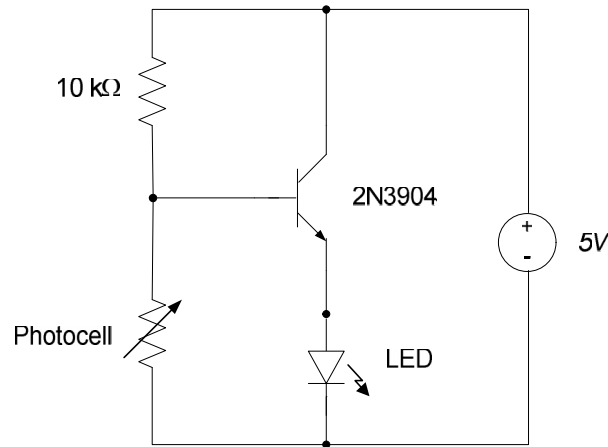
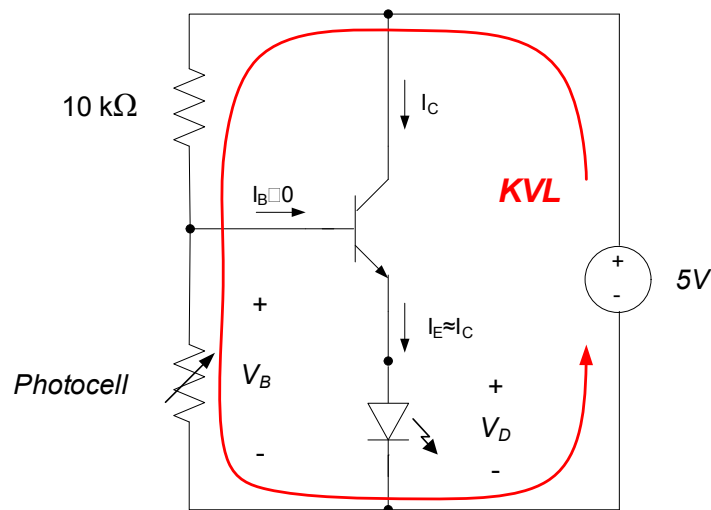

Figure 1. Dusk-to-dawn lighting circuit.
Figure 5. Circuit analysis to determine BJT base voltage.
In this part of the lab assignment, we will create a light-sensitive lighting system. A photocell – a light-sensitive resistor – will be used to sense the ambient light level. A Bipolar Junction Transistor (BJT) will be used as a switch to turn on a light-emitting diode when the ambient light level becomes low. The circuit we will use is shown in Figure 1.
There are several unfamiliar components in the circuit of Figure 1: a photocell, an LED, and a BJT. A detailed understanding of the operation of these components is beyond the scope of this lab, but a brief overview of their operating characteristics is provided below. Later courses in a typical electrical engineering curriculum will provide background information necessary to fully understand these components.
Apply KVL around the outer loop of the circuit of Figure 1 (as shown in Figure 5) to determine the voltage V_B for photocell resistances of $5\text{K}\Omega$ and $20\text{K}\Omega$. You may assume that the current into the base of the BJT is negligible.
1. Construct the circuit shown in Figure 1. The LED should not light under normal light levels. Using the scope instrument on your Analog Discovery (or a DMM), measure the base voltage of the BJT (V_B in Figure 5) and the voltage difference across the diode (V_D in Figure 5). Record these voltages in your lab notebook and compare them with your calculated values from the prelab.
2. Cover the photocell; the LED should light up. Using the scope instrument on your Analog Discovery (or a DMM), measure the base voltage of the BJT (V_B in Figure 5) and the voltage difference across the diode (V_D in Figure 5). Record these voltages in your lab notebook and compare them with your calculated values from the prelab.